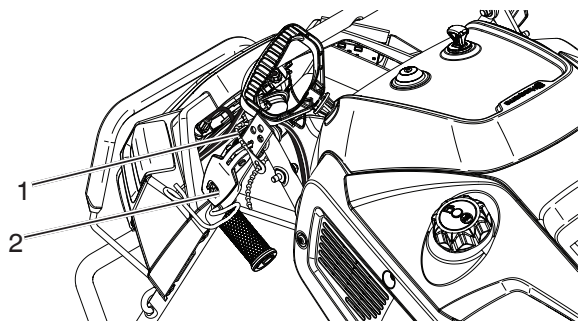

Figure 2
1. Remove temporary cable ties holding cables at handle adjustment holes (Figure 2).